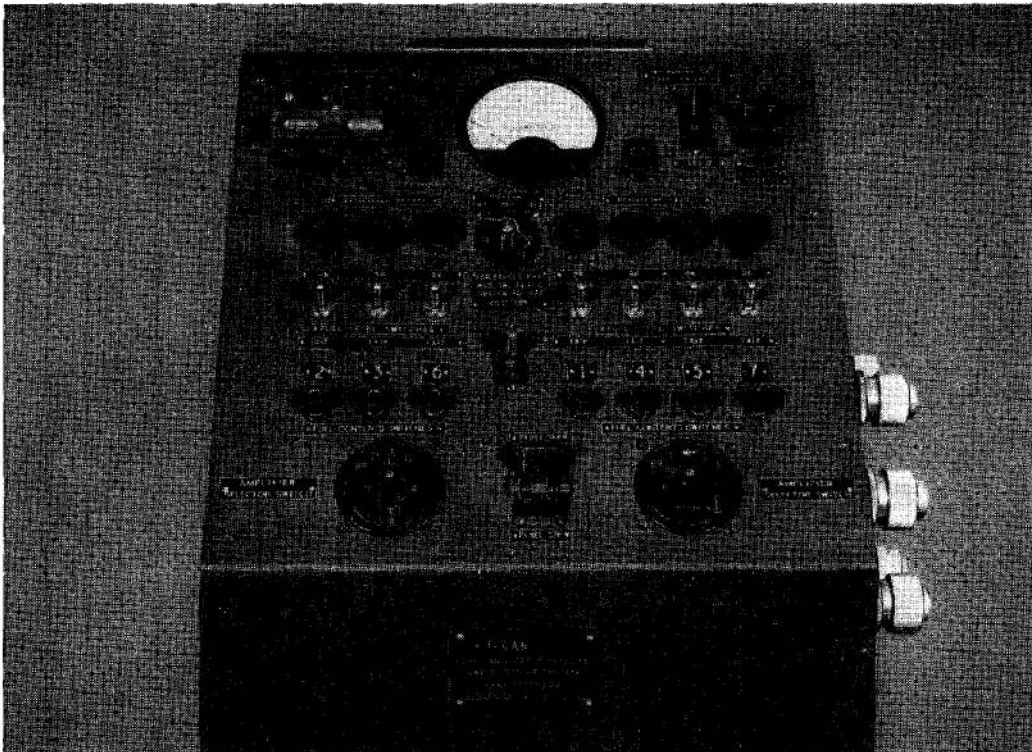

Fig. 1. General view
5. The test panel (*fig. 1*) is a framework of aluminium alloy angle covered by panels of aluminium alloy sheet. With the exception of the back and bottom panels which are secured by 2BA screws and anchor nuts, the panels are rivetted to the framework. The front panel which slopes upward to the rear is the control panel.